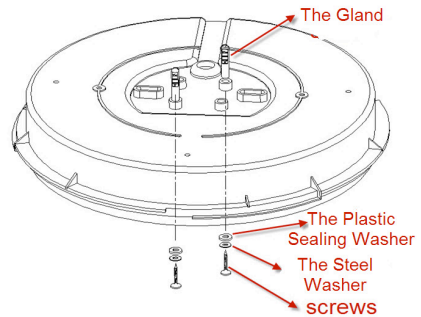

Fig 4
- Feed the power supply cable through the cable entry and gland, then fix the luminaire to the wall through the 4 screws. (see Fig 4)